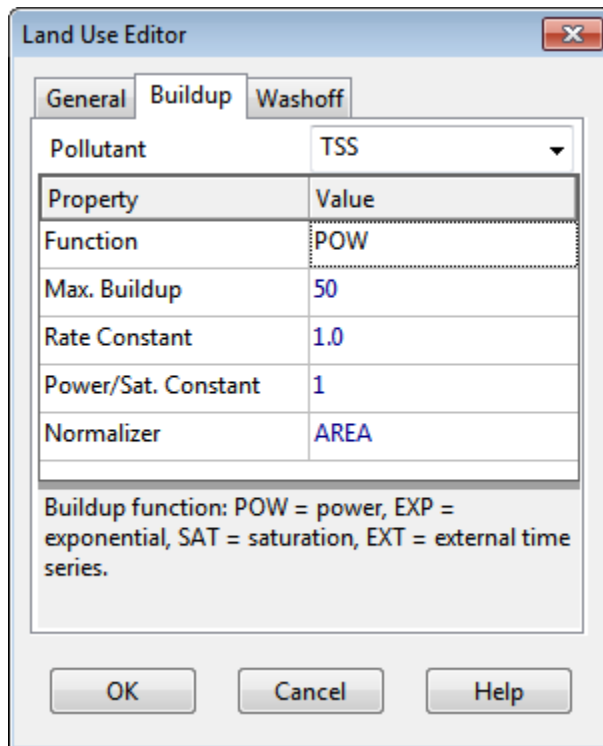

Figure 2-21 Defining a TSS buildup function
2. In the Land Use Editor dialog, move to the **Buildup** page (see Figure 2-21).